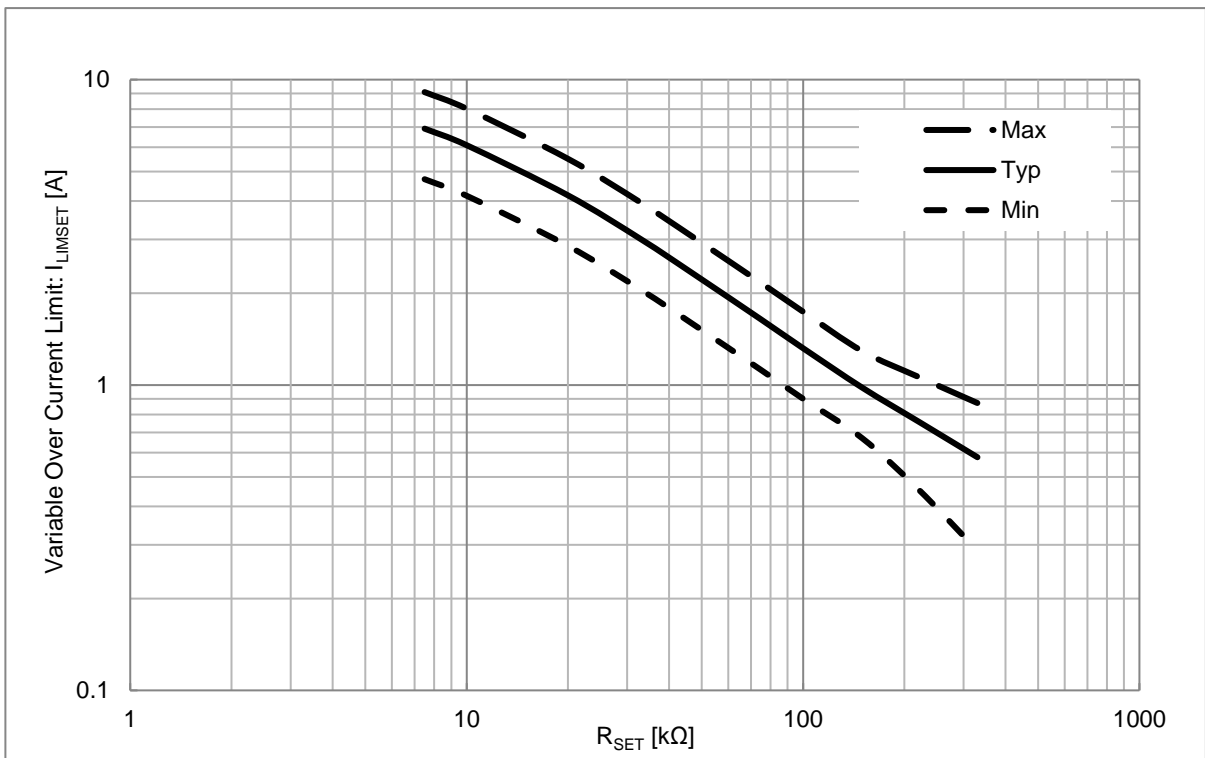
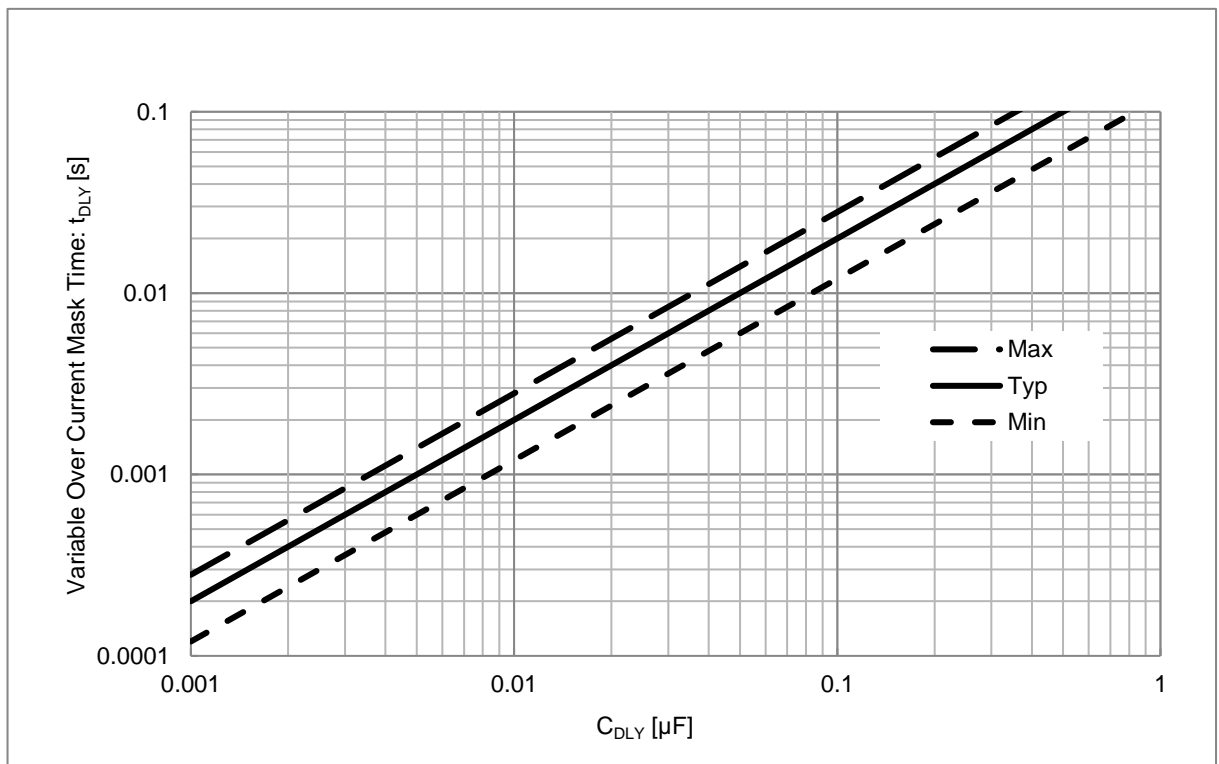

Figure 36. Variable Over Current Limit vs  $R_{SET}$
Figure 37. Variable Over Current Mask Time vs  $C_{DLY}$
*(Note 3)* GND voltage of IC rises when you use RGND and DGND. When GND voltage of IC rises, the voltage of the SET pin and the DLY pin of the variable overcurrent setting rises, too. Please use it in consideration of rise in GND voltage. It is available with a characteristic as it is showed in Figure 36 and Figure 37 when you connect RSET and CDLY to GND of IC.